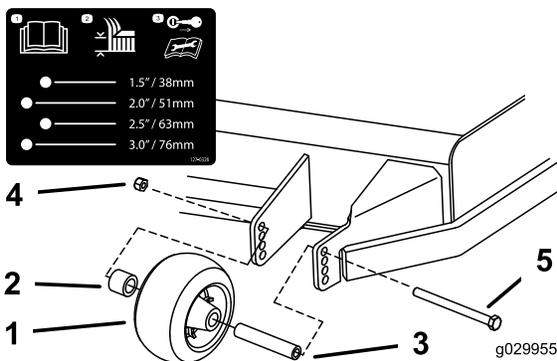

Figure 23
3. Adjust the anti-scalp rollers as shown in Figure 23.